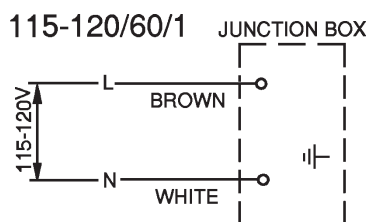

Fig. 6
- * The white lead must be connected to the neutral conductor of the power source. Miswiring results in severe damage to the icemaker. See Fig. 6.